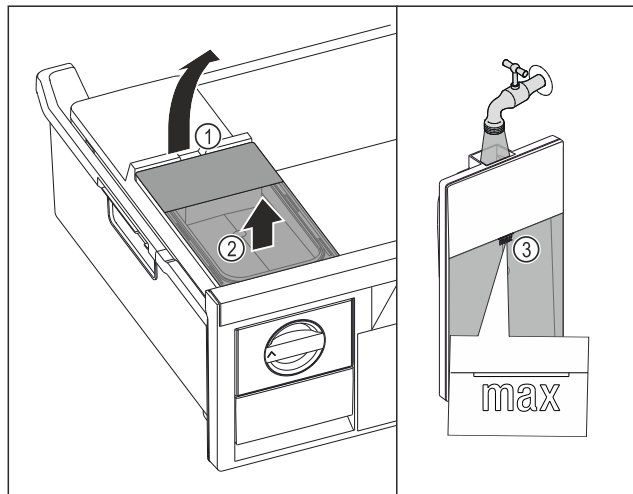

Fig. 110
- ▶ Lift the water tank at the recess Fig. 110 (1).
- ▶ Remove the water tank by lifting it upwards. Fig. 110 (2)
- ▶ Fill the water tank with drinking water up to the mark Fig. 110 (3).